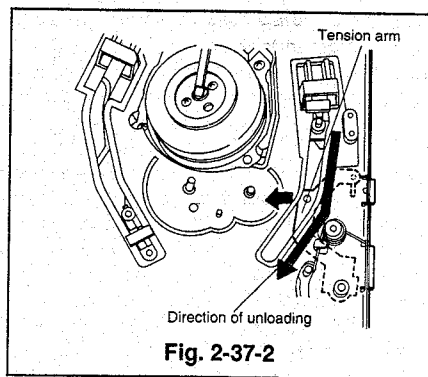

Fig. 2-37-2
- Move the takeup and supply tape guides to the unloaded position. If the supply tape guide is in the loaded position it will be necessary to shift the tension arm in the direction of the arrow in Fig. 2-37-2 at the same time moving the supply tape guide to the unloading position.